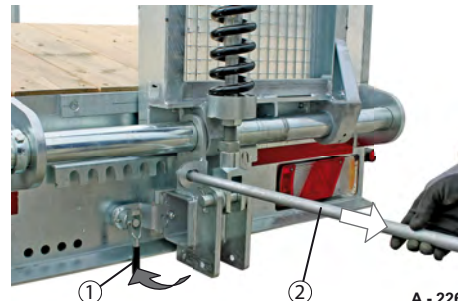

Fig. 85 Securing the track width notches
- Press the spring lever (Fig. 85/1) downwards.
- Pull out the operating pole (Fig. 85/2) and set it down safely to avoid damage.